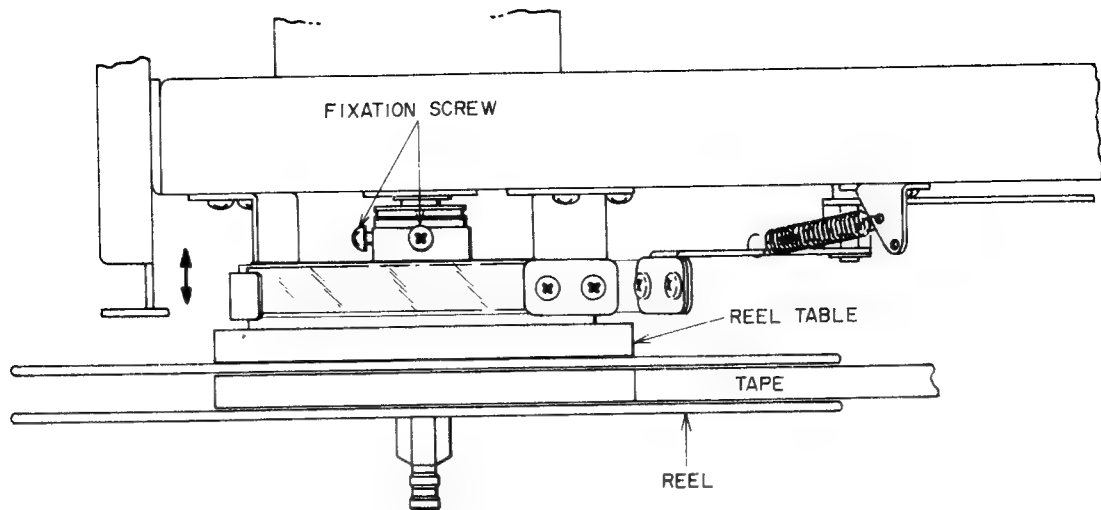

Fig. 8
8. REEL TABLE HEIGHT ADJUSTMENT (Refer to Fig. 8)